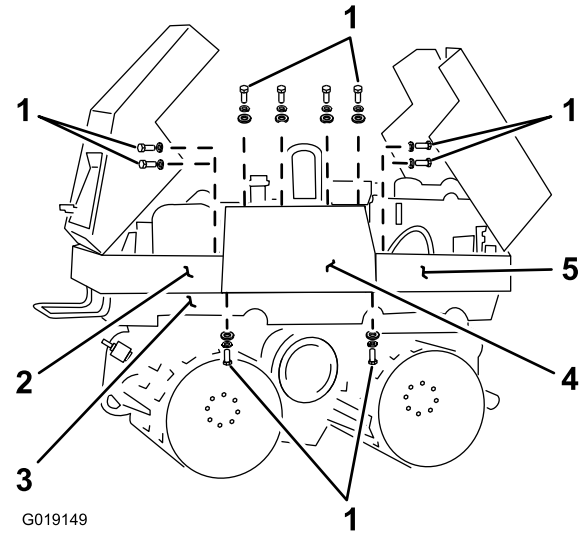
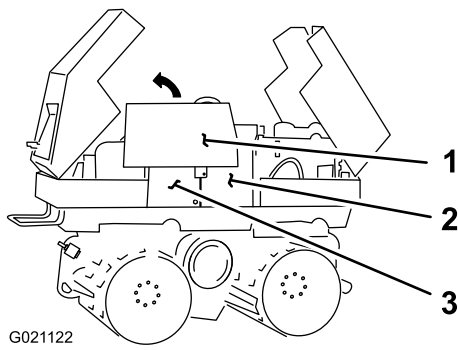

Figure 75
Figure 76
- B. Place a waste oil container with a 57 L (15 US gallons) capacity under the drain plug at the right-lower side of the hydraulic tank (Figure 76).
- C. Remove the drain plug and allow the hydraulic fluid to drain into the container (Figure 76).
- E. When the hydraulic oil is drained from the tank, install the drain plug in the drain plug hole, and tighten (Figure 76).
1. Remove the bolts and washers that secure the front of the right-side panel to the **front-hood rail** (Figure 75).
2. Remove the bolts and washers that secure the back of the right-side panel to the **rear-hood rail** (Figure 75).
3. Remove the bolts and washers that secure the right-side panel to the **upper frame** (Figure 75).
4. Remove the bolts and washers that secure the top of the right-side panel to the **hydraulic tank and fuel tank** (Figure 75).
5. Remove right-side panel from the machine chassis as shown in Figure 76.
1. Align the right-side panel with the mounting points at the hydraulic tank, fuel tank, upper frame, rear-hood rail, and front-hood rail (Figure 75 and Figure 76).
2. Secure the right-side panel to the **hydraulic tank and fuel tank** with the bolts and washers (Figure 75) removed in step 4 in Removing the Right-Side Panel (page 54).
3. Secure the right-side panel to the **front and rear hood rails** with the bolts and washers (Figure 75) removed in steps 1 and 2 in Removing the Right-Side Panel (page 54).
4. Secure the right-side panel to the **upper frame** with the bolts and washers (Figure 75) removed in step 3 in Removing the Right-Side Panel (page 54).